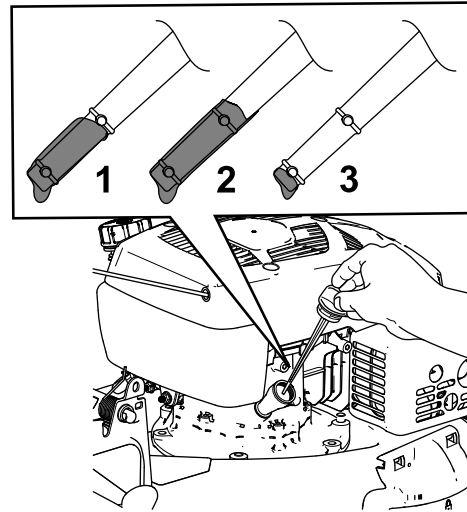

Figure 7
3. Remove the dipstick (Figure 7) and pour about 3/4 of the crankcase capacity of the specified oil into the oil-fill tube.
6. Read the oil level on the dipstick (Figure 7).